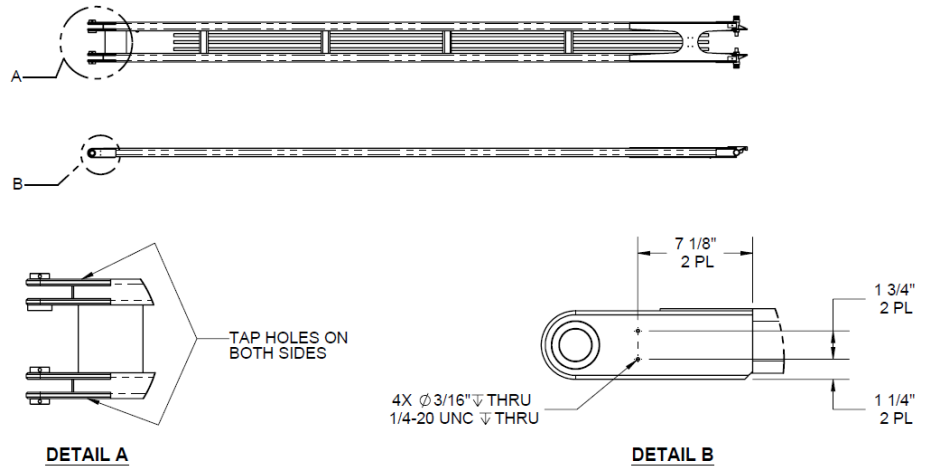

Figure 1
Step 1: Drill and tap the bolt holes on the lift arm as shown in Figure 1. Deburr as needed and paint with appropriate color rust prevention paint (i.e. Rustoleum).